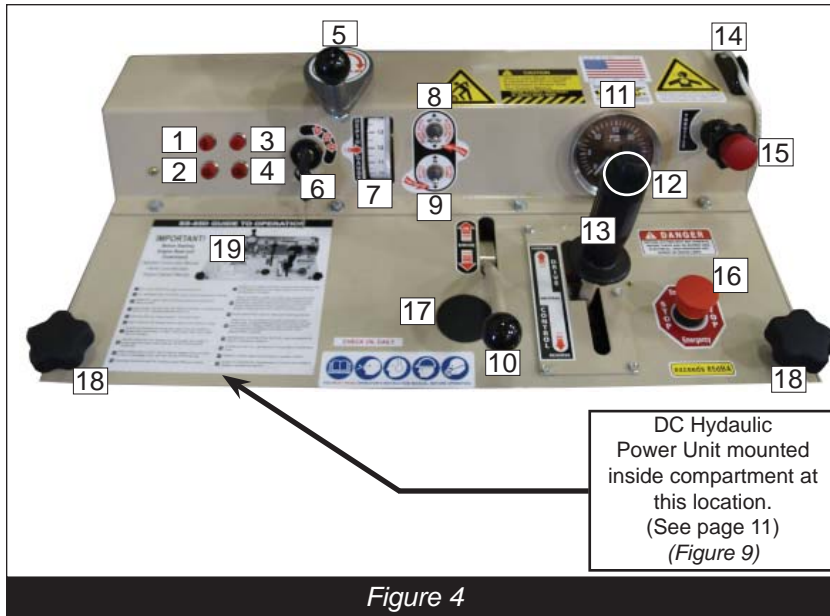

Figure 4
- Verify the Drive Control lever is in the Neutral (center) position. (*Figures 4 &5*)